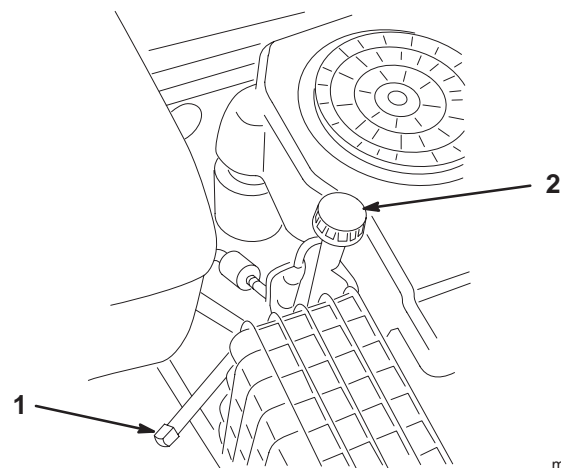

Figure 17
3. Place a pan below the oil drain. Remove the oil drain cap (Fig. 17).
5. Clean around the oil dipstick and unscrew the cap (Fig. 17).